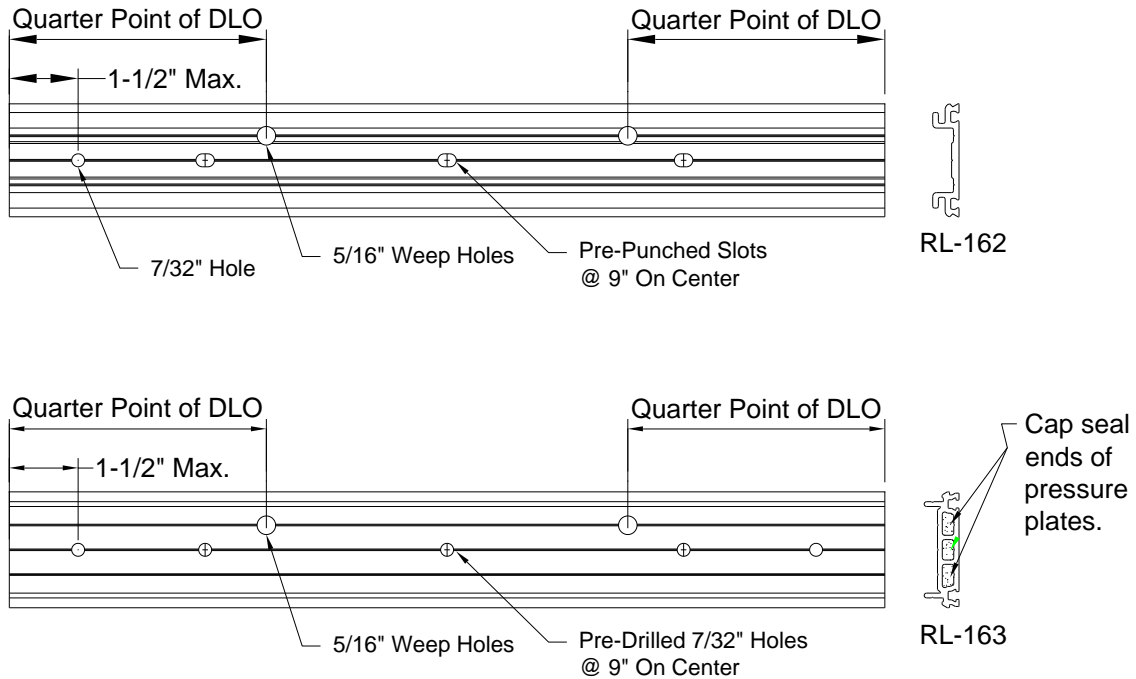

Figure 7: Pressure Plate Fabrication
- 6.3 All pressure plates have factory-punched holes for fasteners at 9" O.C. To ensure proper pressure on the glazing, 7/32" diameter holes may need to be drilled at the ends of each horizontal pressure plate as required. Locate at 1-1/2" maximum from the ends. See Figure 7.